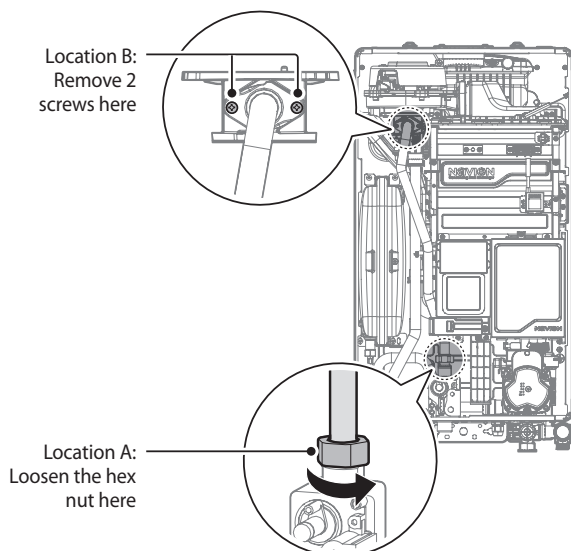

Figure 3. Detaching Gas Inlet Pipe from Gas Valve and Fan Motor Assembly
- Loosen the hex nut at location A - the connection above the gas valve where it connects to the pipe. See Figure 3 for reference. Once the hex nut is loose, carefully separate the pipe from the gas valve.